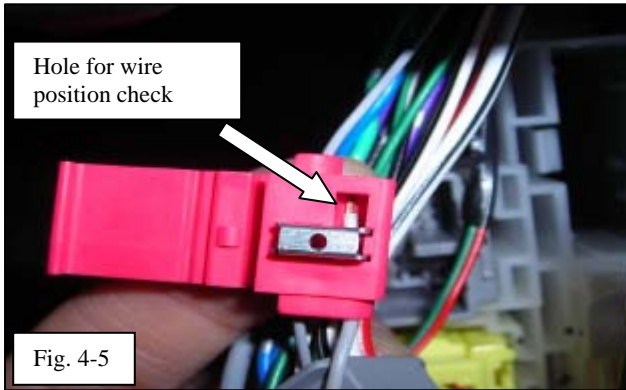

Fig. 4-5
- (4) Insert the **GREY** un-fused wire from the illuminated door sill into the Scotchlok. You should be able to see the wire through the hole if it is inserted all the way. (Fig. 4-5)